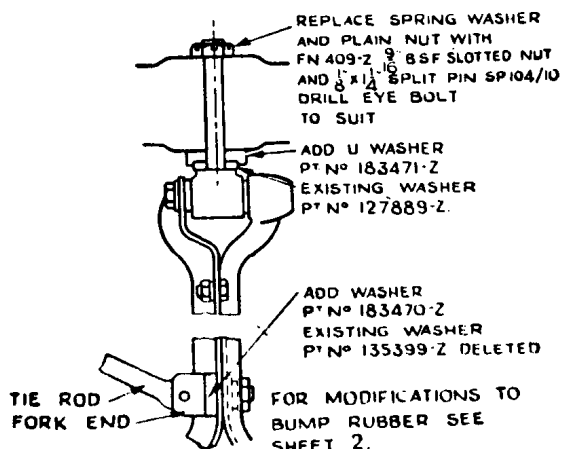

Fig. K.12
- (2) Slacken the eyebolt forming the anchorage for the lower suspension arm to the frame and slip the recessed 'U' washer (Part No. 183471) between the existing washer and the frame, as indicated in Fig. K.12. Replace the spring washer and plain